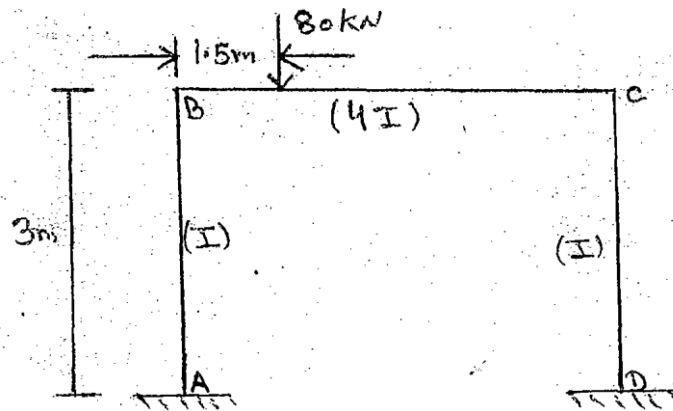

Fig.4
5. Using Kani's rotational contribution method, analyse the frame shown in figure 4. Moment of inertia of the members are shown encircled near the members.